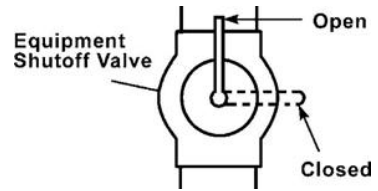

Figure 11 – Equipment Shutoff Valve
1. Open equipment shutoff valve (see Figure 11).
1. Close equipment shutoff valve (see Figure 11, page 12).